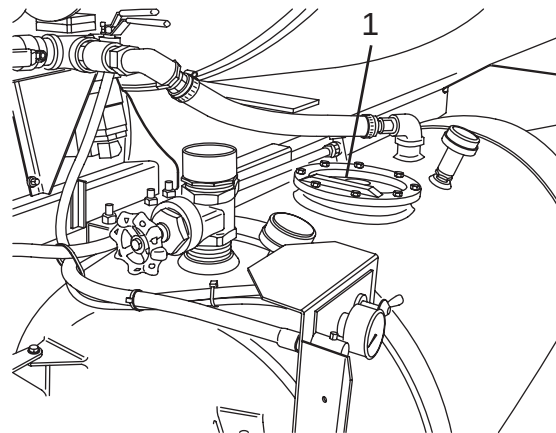

Figure 87
2. Place the water supply hose in the water tank flopper valve (Figure 87, Item 1) and fill the tank.